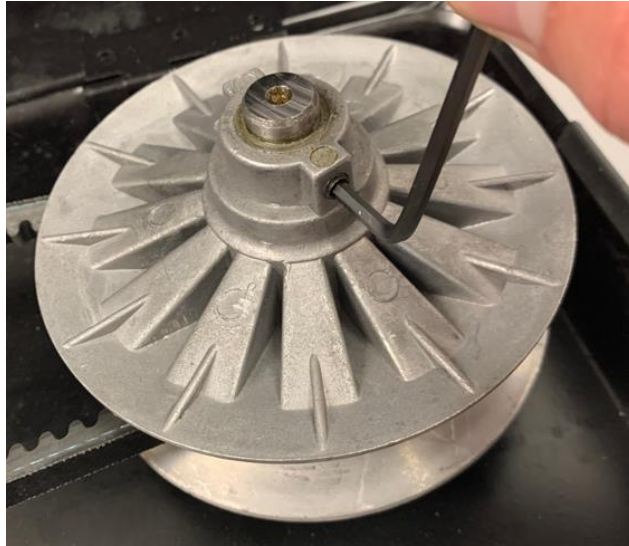

Figure 3. Loosening the Set Screws
3. Once the circlip is removed, loosen the set screws using a #3 metric hex wrench as seen in Figure 3. If the motor shaft is well-lubricated, the pulleys may pop-off once the set screws are loosened. If they do not, firmly work the pulleys off the shaft. If the pulleys are stuck, WD40 can be used to lubricate the shaft. A gear-puller can also be used.